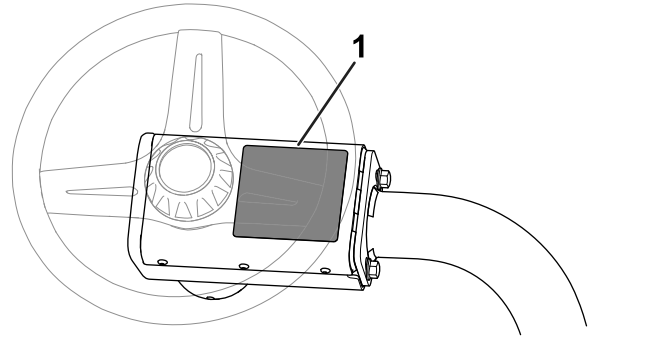

Figure 14
- **CE warning decal**: Apply the CE warning decal (Part No. 139-8321) over the existing warning decal (Part No. 139-8320) on the steering-wheel cover; refer to Figure 14.